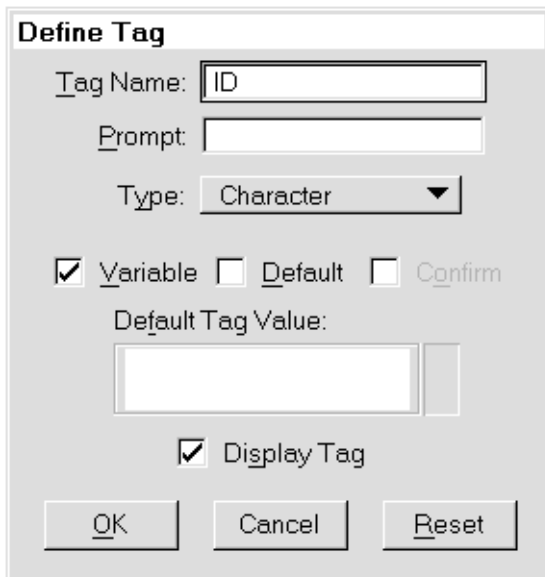

Figure 2 Define Tag Dialog
- Next use the Add button under Tags. A new dialog, Define Tags, is displayed. The first tag will be an equipment ID number. Fill in the data as shown in Figure 2 and click **OK**.